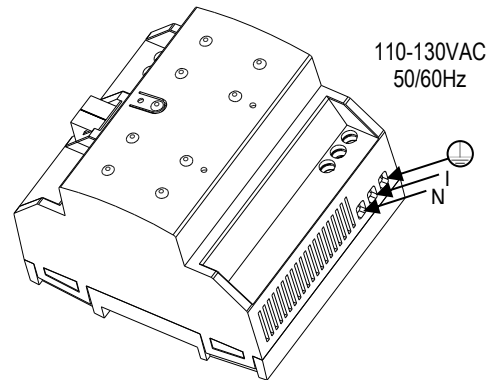

Figure 2: ZPS640HIC110 installation and connection
- Main power must be connected to L, N and ground terminals, in accordance with the schematic represented in figure 2.